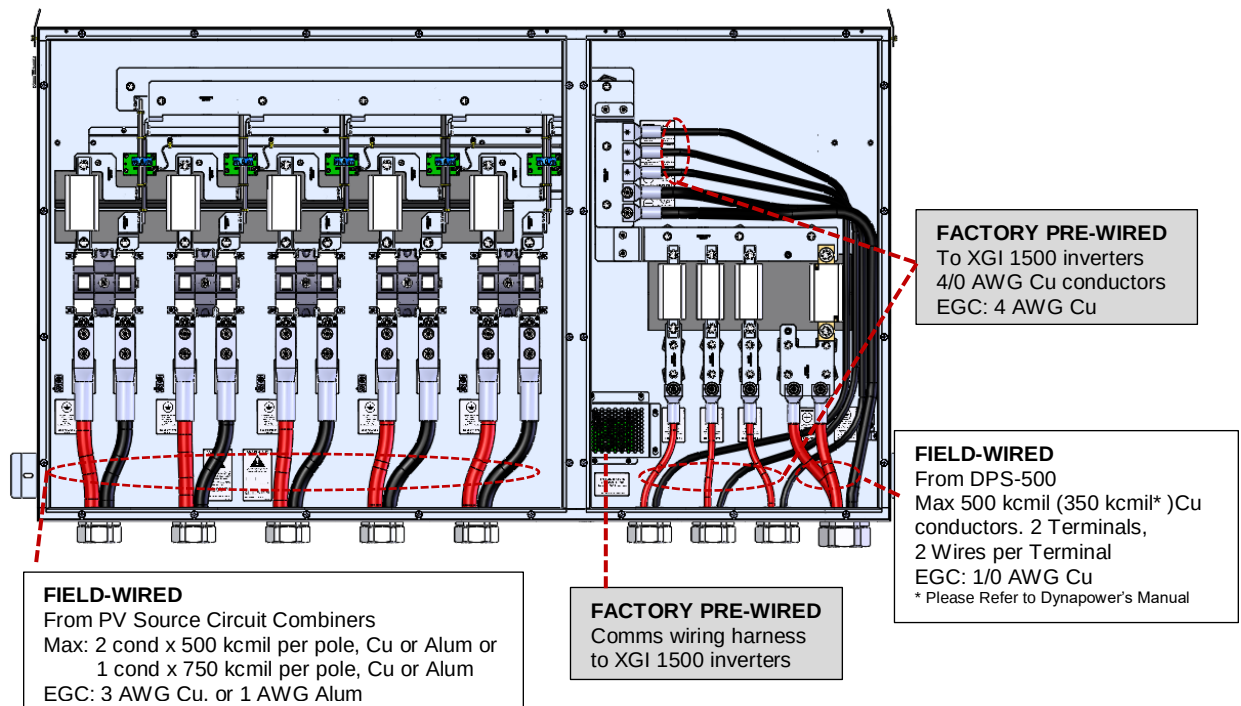

Figure 5.1 – Specs for Field Wiring to the DCR-1500 Re-Combiner
Completing the installation of the DC Re-Combiner (see Figure 5.1) requires: (1) field wiring from the PV Output (Source) Circuits, originating in CR1500-400 PV Source Circuit Combiners in the PV array field, to the terminals in the DC Re-Combiner and (2) field wiring from the terminals in the DC Re-Combiner to the terminals in the Dynapower DC/DC Converter. In addition, the DC Re-Combiner has two factory pre-wired connections: DC power from the DC Re-Combiner to the DC input of the XGI 1500 inverters, and the communications wiring harness that also connects the DCR-Combiner to the XGI 1500 inverters. Figure 5.1 shows the maximum wire compatibility for the field-wired connections, and the as-delivered factory-wired conductor specifications.